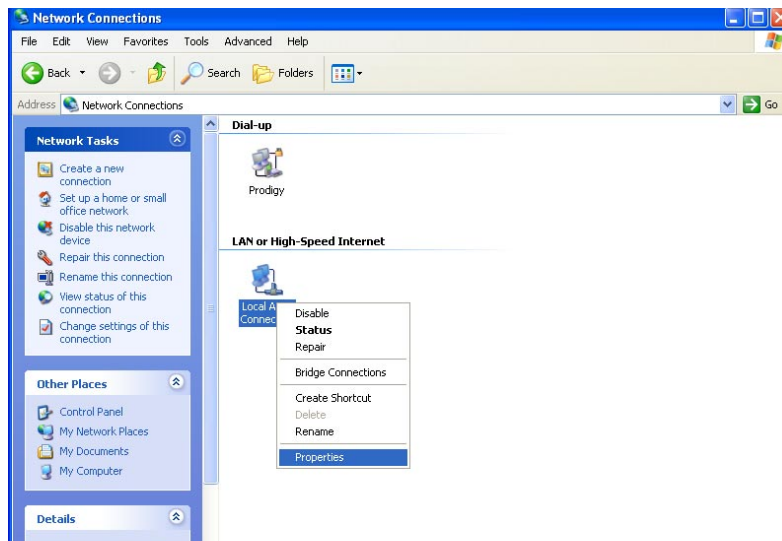

Figure 98: Network Connections
2. A list of network adapters will be displayed. A Local Area Connection must be listed under LAN or High-Speed Internet. If not, the network is not installed correctly. See Figure 98.